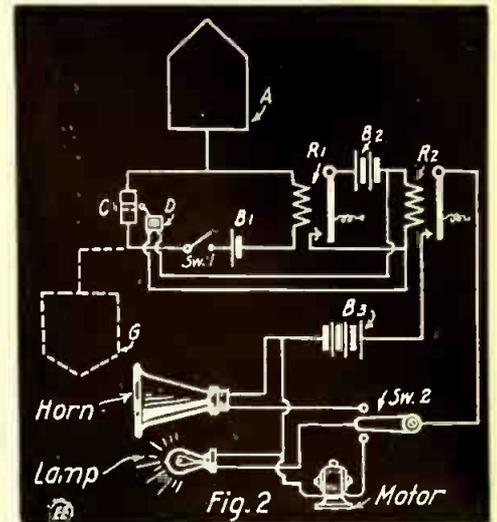

Fig. 2. Diagram of Coherer Set Connections.
Referring to the diagram of connections for this outfit at Fig. 2, the general operation and arrangement of the set will be more clearly understood. A metal plate, which also shows in Fig. 1, and made of
this capacity should be used as shown in dotted line at Fig. 2 for greater distances
(Below:) Fig. 2. Rear View of Same.
The rear view is shown in Fig. 2. The connection of each individual instrument is represented in diagram Fig. 3, where A, C, L₁ constitute the primary or antenna circuit and C₂, L₂ constitute the secondary circuit. The two circuits are electrically linked together through two small condensers C₀, C₀, and any degree of coupling may be obtained by varying these condensers. This method of coupling offers several advantages. They are: (1) Compactness; (2) increased efficiency; (3) higher selectivity; (4) simplicity in operation. In regard to the first point it is quite obvious that by eliminating the receiving transformer, or loose coupler, a considerable economy in space may be accomplished, which makes it possible to build a receiving set of comparatively small dimensions for a large range in wave lengths. The second and third points have been definitely settled by a large number of comparative tests with other receivers of the best known types on the market.